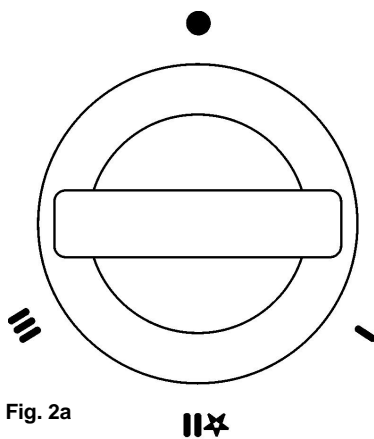

Fig. 2a
2. **To light the appliance** (Fig 2a): At the OFF (●) position push in the control knob as far as possible and still pushing in turn anti-clockwise to the ignition position (★) to light the burner. Keep the knob pushed in for 20 seconds and the burner should remain alight. If not, repeat the sequence.